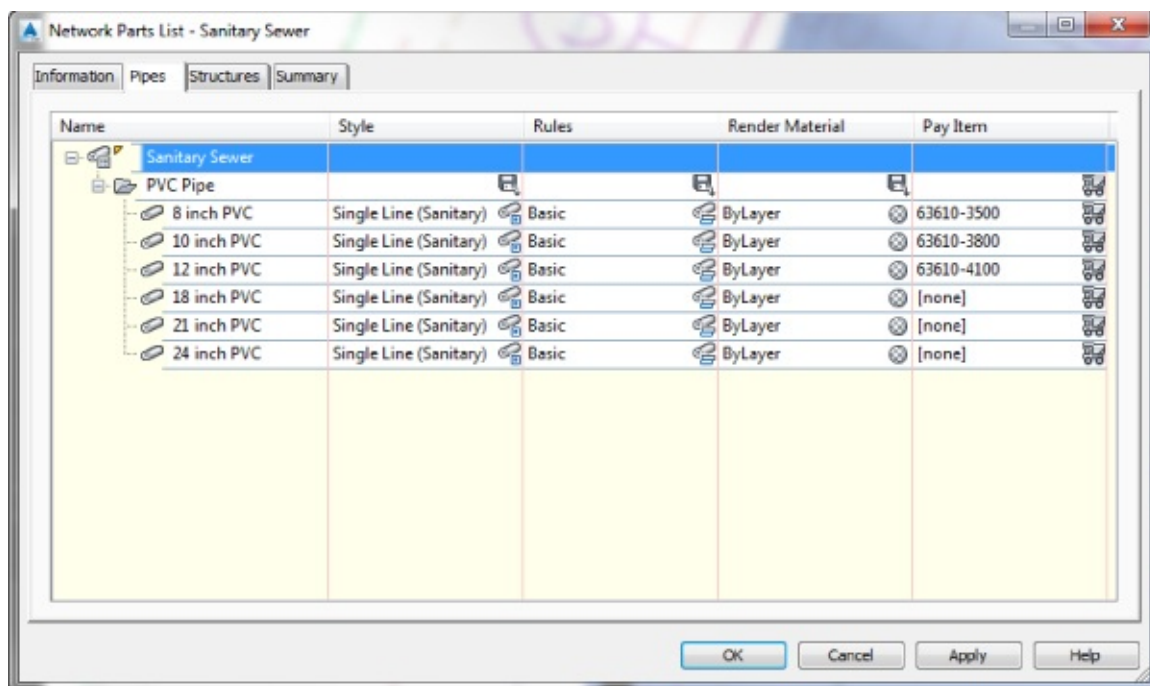

Figure 17.14 Completed pipe parts pay item assignments
8. Repeat steps 4 through 7 to assign pay items to 10- and 12-inch (250 mm and 300 mm) PVC conduits. Your dialog should look like Figure 17.14.